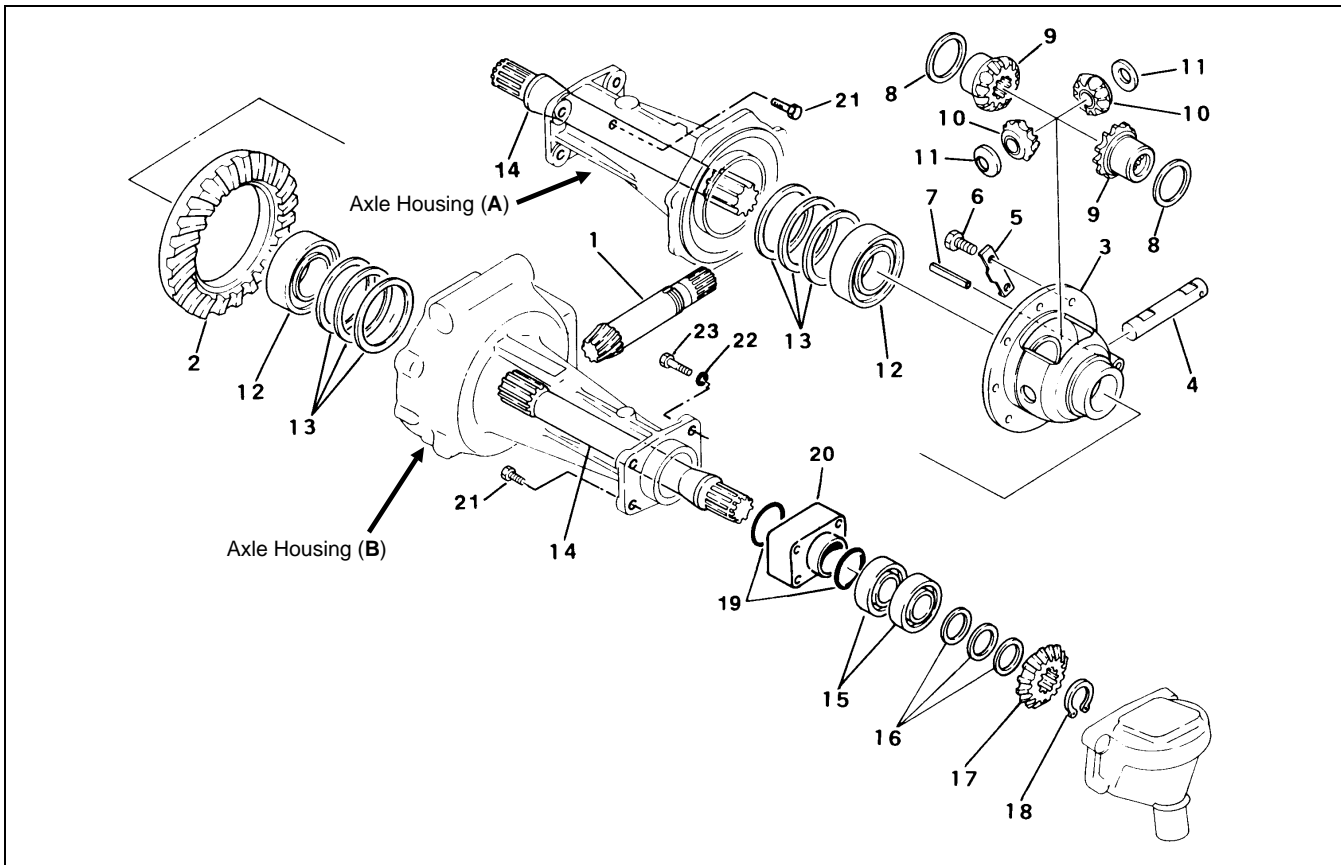

Figure 23
2. Remove bolts (Fig. 23, Item 23 and 21) securing gear case to axle housing and pull gear case complete with final drive case.
#### 4. Pull out differential shaft (Fig. 23, Item 14) from housing (B).
#### 5. Remove differential gear assembly (Fig. 23, Items 3 - 11) from axle housing (A).